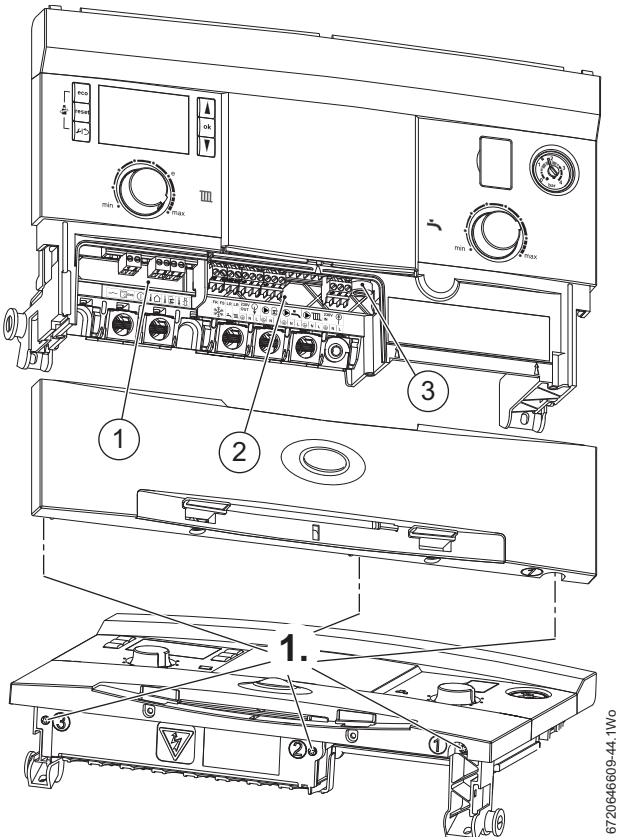

Fig. 39 Removing the installer access cover
1. Refer to figure 39 and release the captive screws securing the Installer access cover.